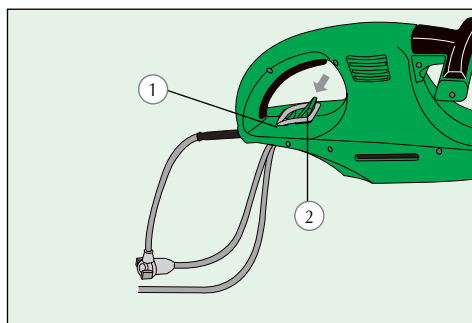

Fig. 2
- ✓ Bend the extension cord and pass it through hole (1), then fit it in clamp (2) (Fig. 2).